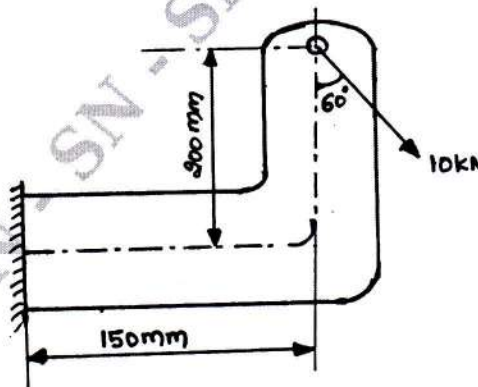

Fig Q2(a)
- 2 a. A mild steel Bracket shown in Fig Q2(a) is subjected to a pull of 10kN. The Bracket has a Rectangular cross section whose depth is twice the width. If the allowable stress for the material is  $80 \text{ N/mm}^2$ , determine cross section of the Bracket.